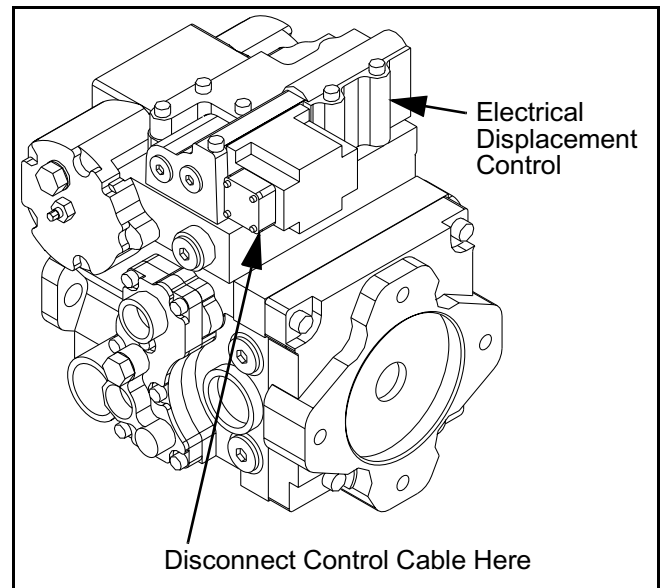

Figure 5 - 11 Electrical Displacement Control
- 8) Disconnect the Electrical Displacement Control at the pump controller. (Figure 5 - 11)